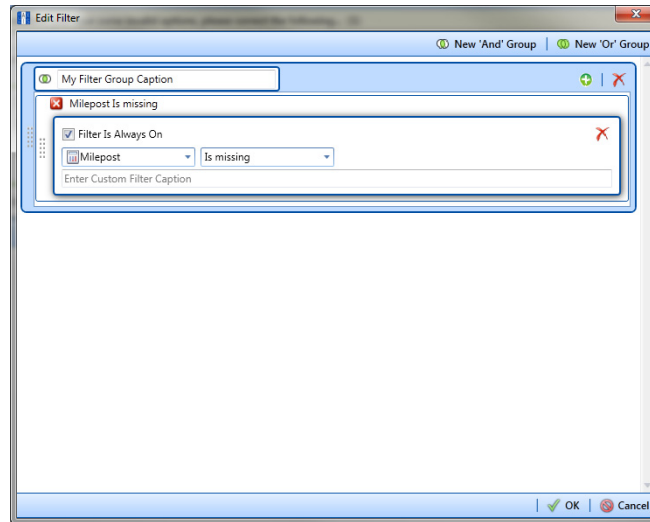

Figure 10-50. New 'And' Filter Group
- a** Click  **New 'And' Group** to open the filter properties group box (Figure 10-50).